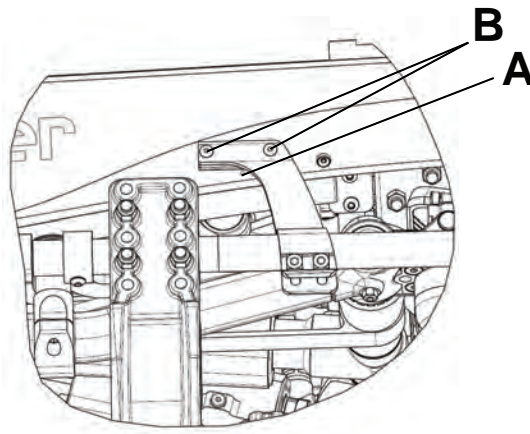

Figure 3 – Adjust the shut-off bracket
4. Adjust the shut-off bracket along the rail clamp until the diamond (A) on the outer rail label is centered between the pop rivet heads (B) on the in-ambulance shut-off (Figure 3).